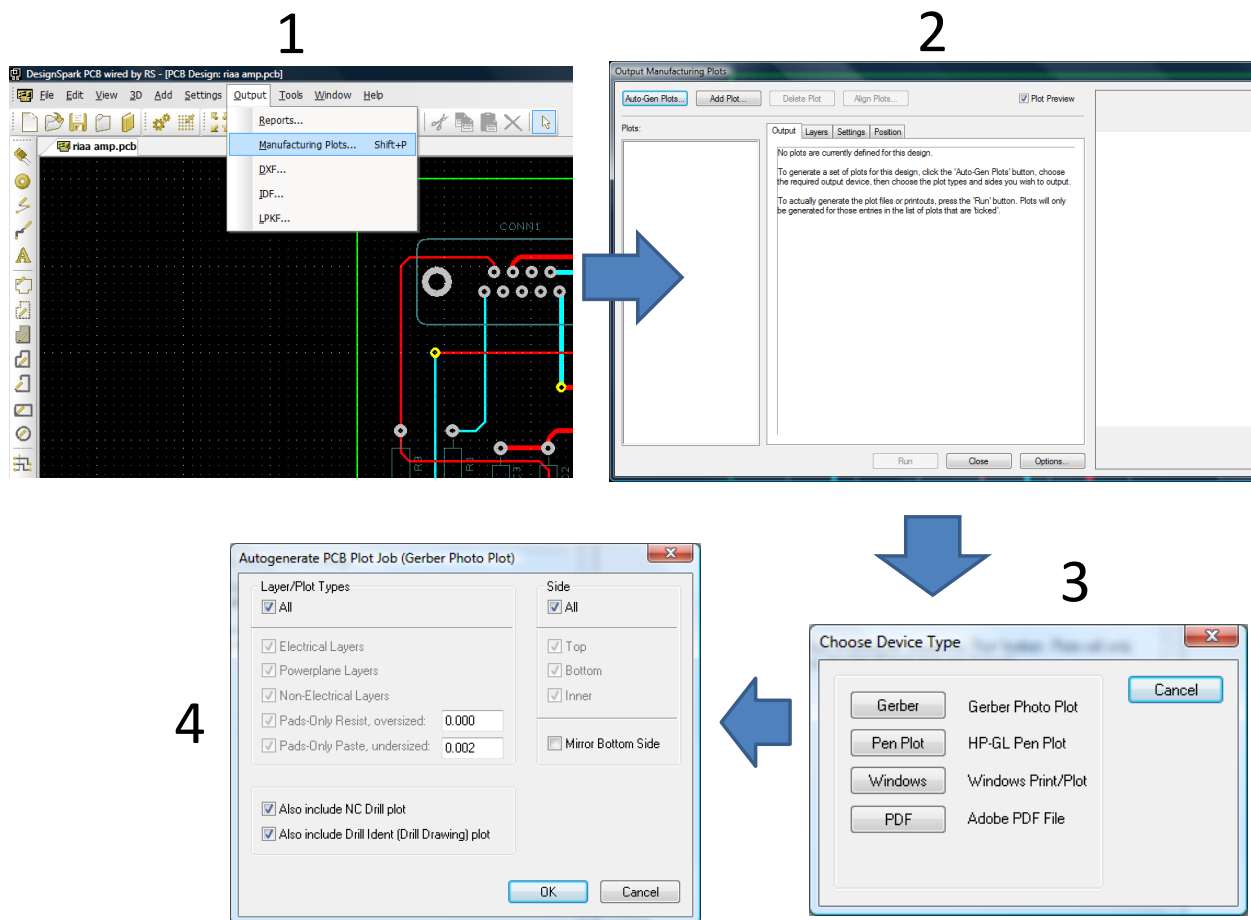

Figure 6-8: Manufacturing Files 1
2. To output the Gerber files, select "Output" - "Manufacturing plots" or press <Shift-P> as shown in Figure 6-8 (image 1).